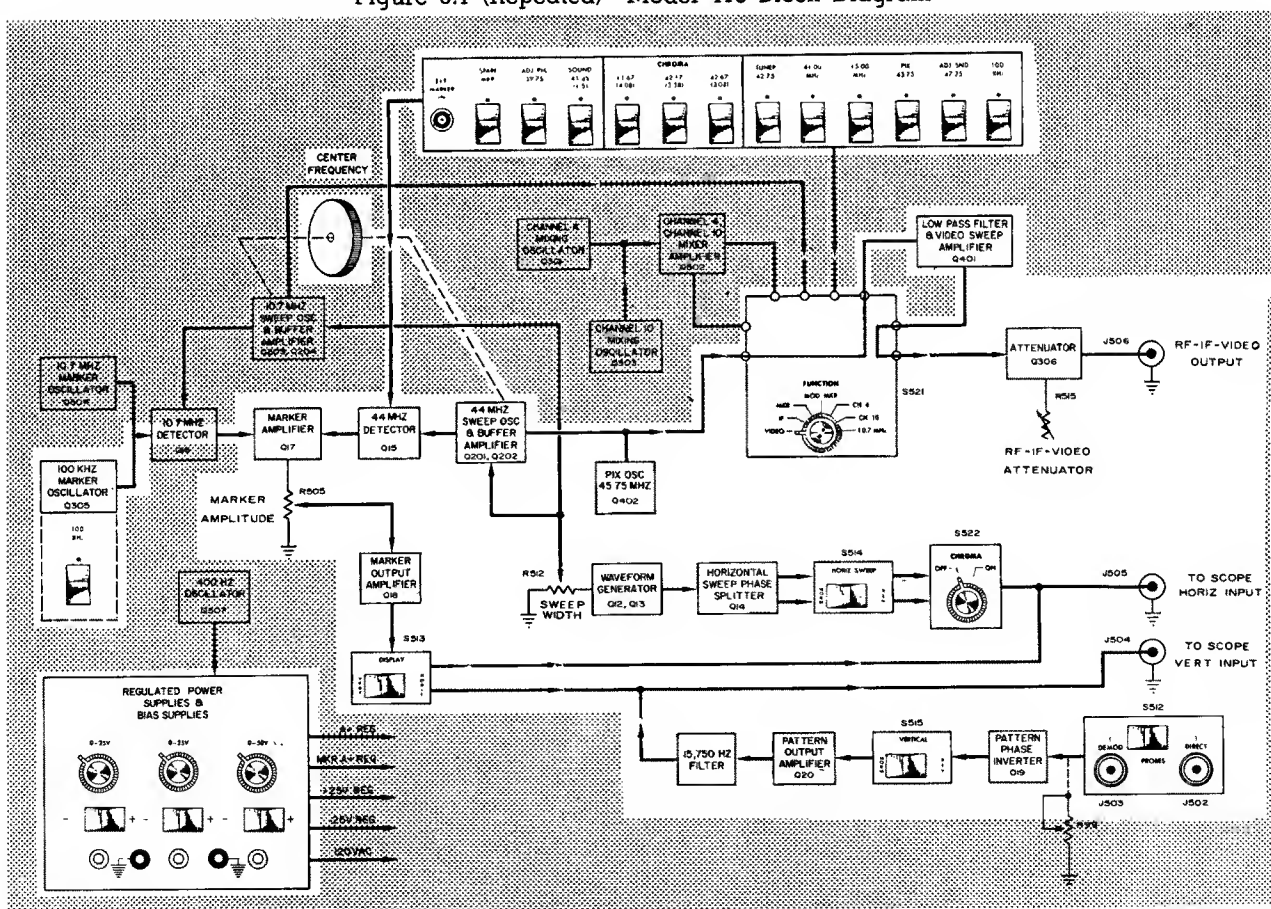

Figure 4.1 (Repeated) Model 415 Block Diagram for VIDEO Function
An example of the use of the troubleshooting information furnished will be outlined. Assume that there is no video output with the FUNCTION switch in the VIDEO position, but outputs at all other FUNCTION switch positions are normal. Refer to Figure 4.1 (Repeated).
12.2.3 Notice in Figure 4.1 that the combined outputs of the 44 MHz sweep oscillator and the pix oscillator are supplied through the FUNCTION switch to Low Pass Filter and Video Sweep Amplifier Q401, and that the output of Q401 is fed through Attenuator Q306 to the output jack. Because this stage is used only in the VIDEO function, it should be investigated. Access to this stage is obtained by removing the bottom cover of the Model 415. The parts layout diagram of Figure 12.5 and the voltage chart of Table 12.3 can be used for reference. The schematic can be used to check cabling and d-c